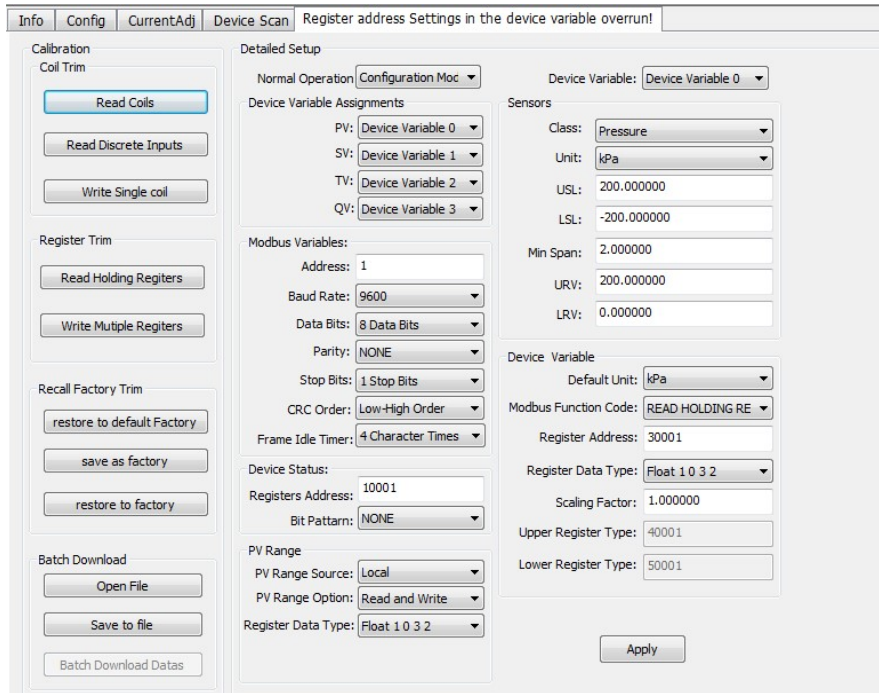

Figure 5.24 Gateway Configuration
- (1) Left-click on an online device in the network view, and the right tab view displays the tabs associated with the device.
- (2) Click on the "gateway configuration" in the right tab view. The first click to run this page requires reading device information. The reading time is about 1 minute. After obtaining the information successfully, the gateway configuration function is displayed, as shown in Figure 5.24.